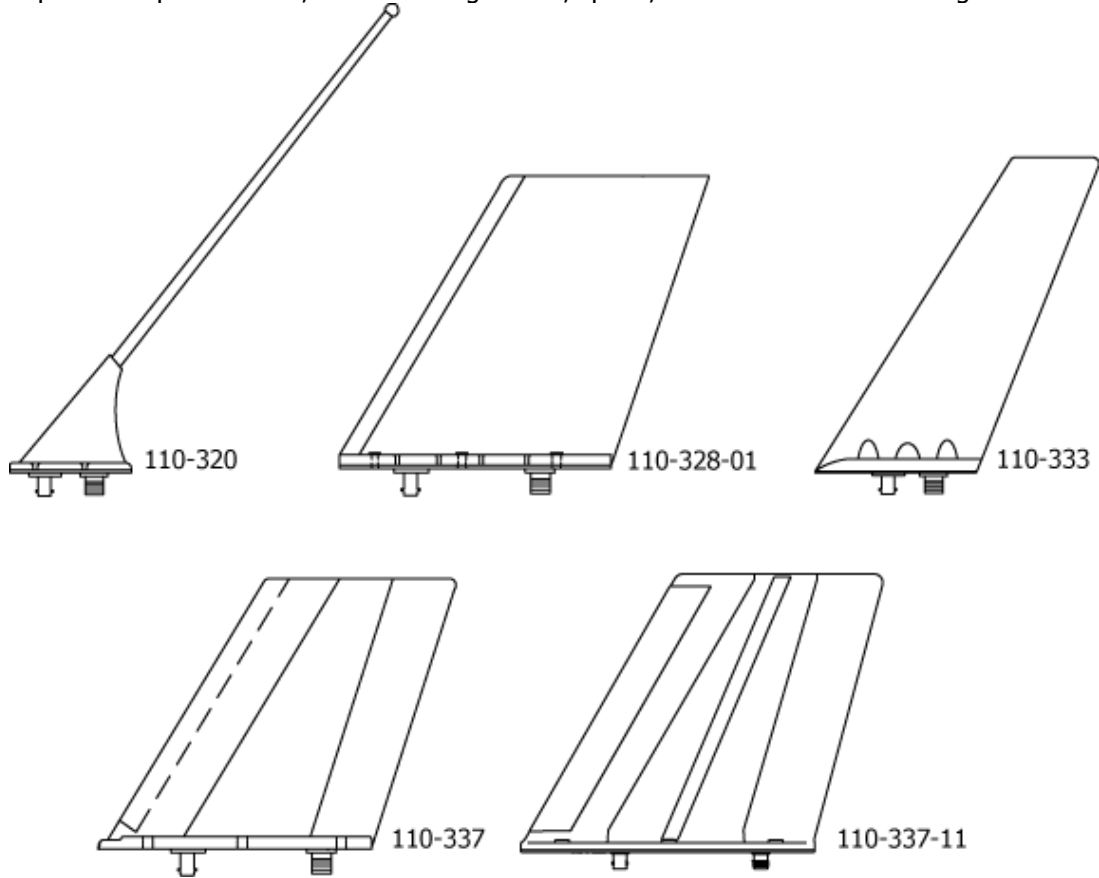

Figure 5 Antennas
- 5) Five dual-input antennas are approved for use with the B406-4 ELT. Selection of the proper antenna is dependent upon end use, aircraft configuration, speed, and other factors. See Figure 5 Antennas.